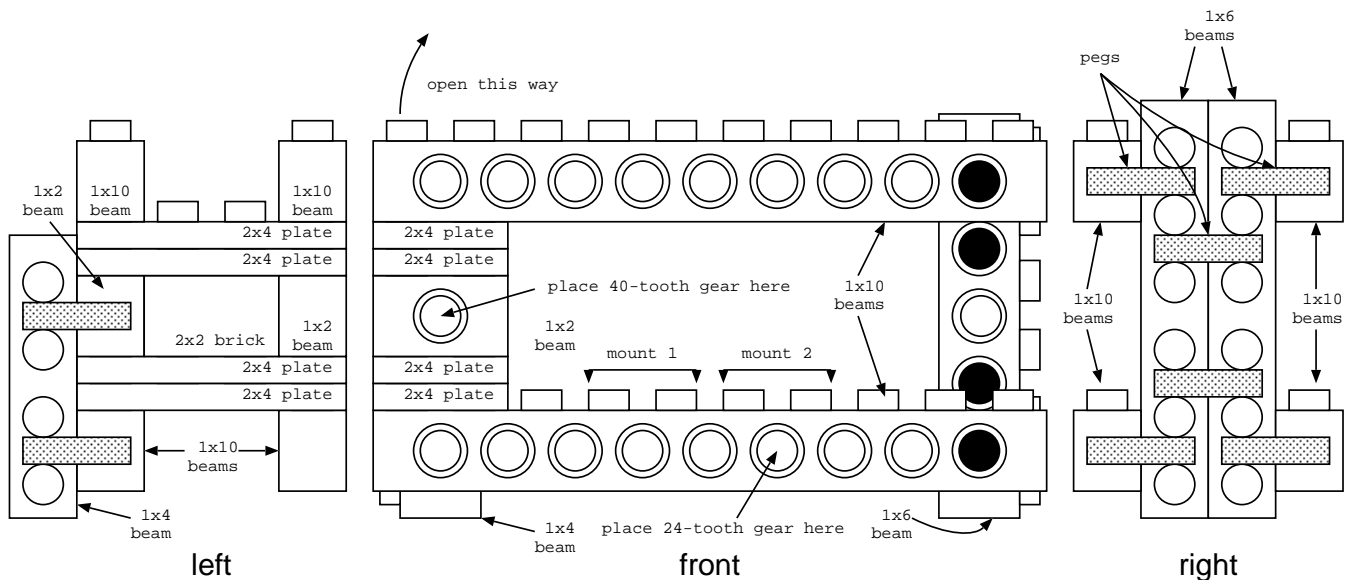

Figure 1: Motor Jig
- **Motor jig.** See Section 4.4 to find how to construct the jig (the jig is reproduced in Figure 1. This LEGO gadget is useful for ensuring that the gears align. If your motor's gear is even a little bit off, you will notice it in both the performance of your robot and the sound that emanates from your robot. Reducing as much friction between LEGOs will lead to faster locomotion.